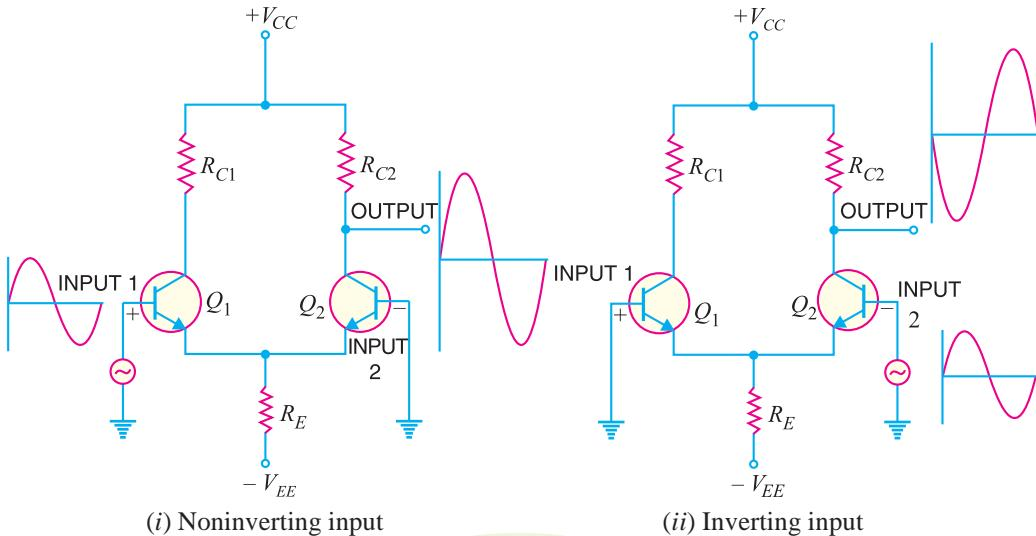

Fig. 25.7
- (b) When only one output terminal is available, the phase of the output of single-ended input DA depends on which input receives the input signal. This is illustrated in Fig. 25.7.
When signal applied to the input of DA produces no phase shift in the output, it is called **non-inverting input** [See Fig. 25.7 (i)]. In other words, for noninverting input, the output signal is in phase with the input signal. When the signal applied to the input of DA produces 180° phase shift, it is called **inverting input** [See Fig. 25.7 (ii)]. In other words, for inverting input, the output signal is 180° out of phase with the input signal. Since inverting input provides 180° phase shift, it is often identified with $-$ sign. The noninverting input is then represented by $+$ * sign. It may be noted that terms noninverting input and inverting input are meaningful when only one output terminal of DA is available.
* Note that in Fig. 25.7, the noninverting input terminal is given the +ve sign while the inverting input terminal is given the -ve sign.